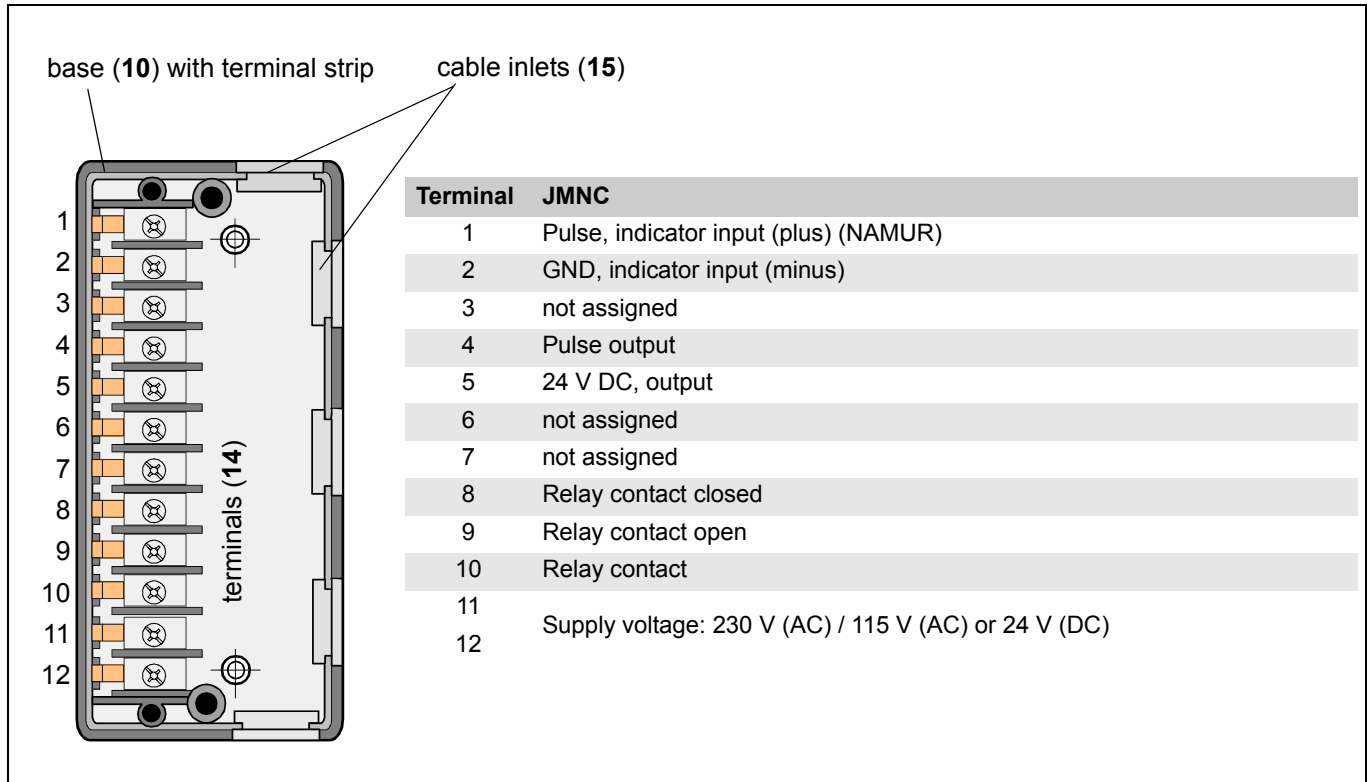

Fig. 5-3: Connection assignment
3. Install the connection cables and guide them into the cable inlets of the base (10) (s. fig. 5-3).
5. Loosen the cores of the terminals (14) (s. fig. 5-3).
7. Plug the rotational speed monitoring device (9) back onto the base (10) and fasten the screws.